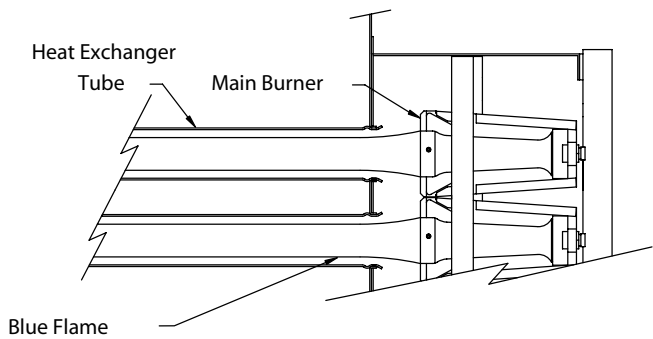

Figure 5
7. Allow the heater to operate for at least 5 minutes, then observe main burner flames. A hard blue flame extending 18 to 24 inches (457 to 610 mm) into the tube is normal. Slight yellow tipping is acceptable (see Figure 5). There is no air adjustment on inshot burners.